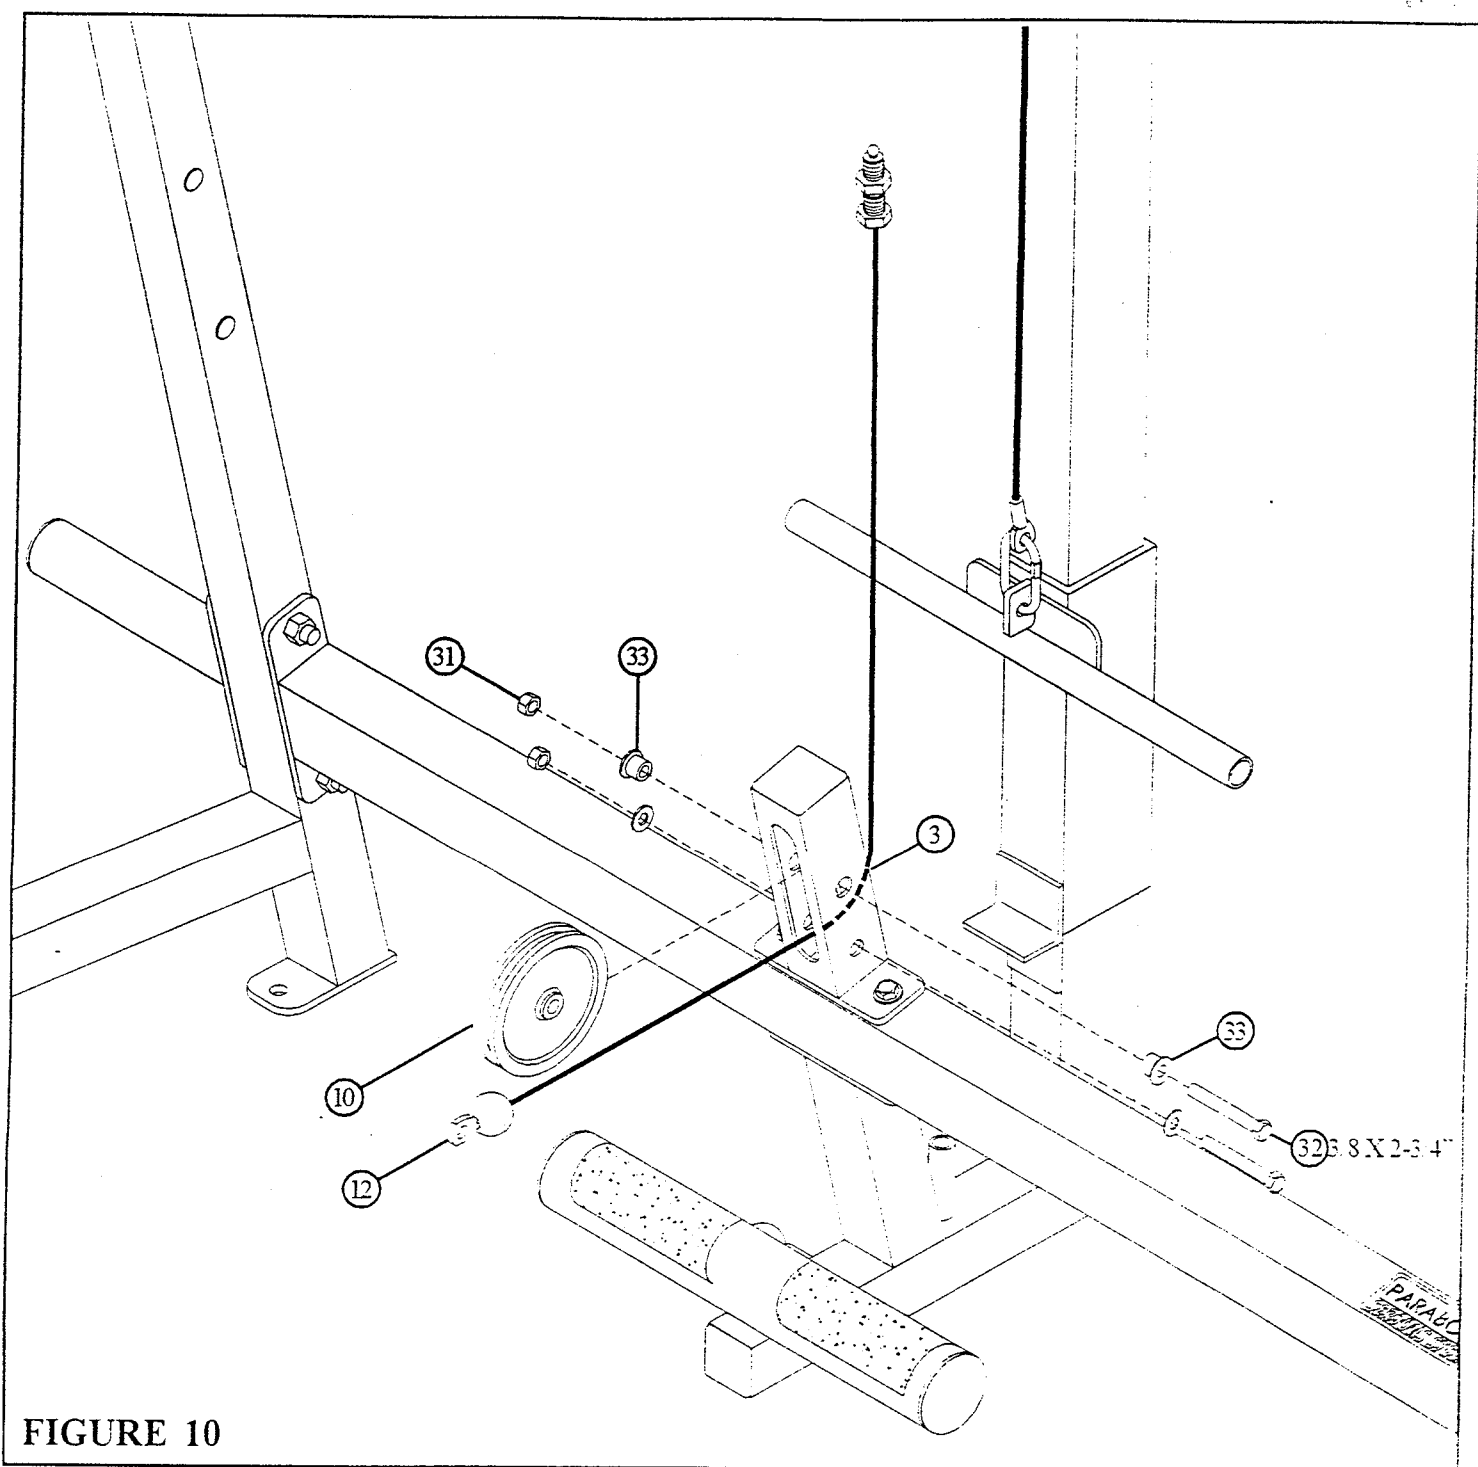

FIGURE 10
- Route the threaded end of the 121-3/4" CABLE (12) through the slot of the PULLEY HOUSING then **SECURELY** assemble one 4-1/2" PULLEY (10) to the PULLEY HOUSING (3) using two 3/8 X 2-3/4" BOLTS (32), two 3/8" FLANGE SPACERS (33), two 3/8" WASHERS (30), and two 3/8" LOCK NUTS (31). (**NOTE: The CABLE (12) should be routed between the pulley and the retaining bolt as shown in FIGURE 10.**)